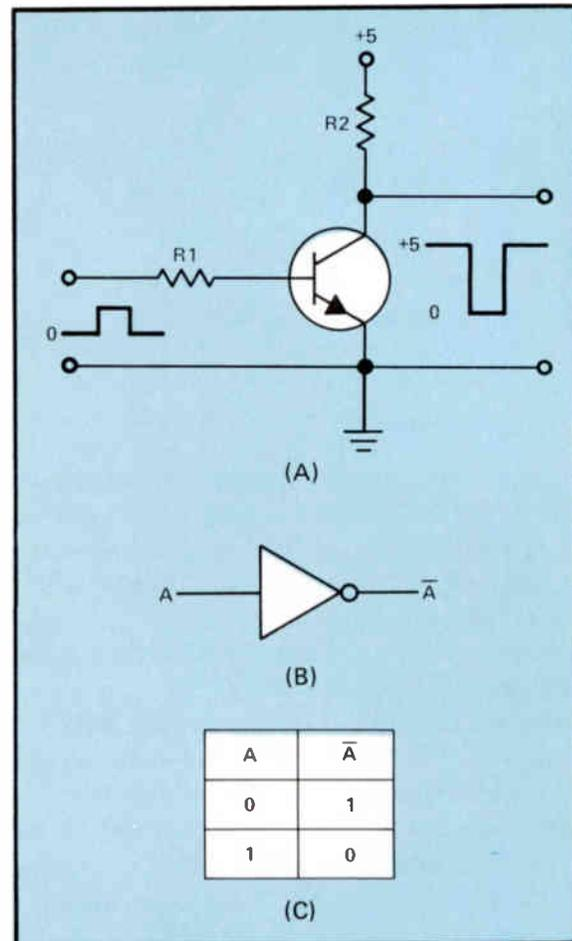

Figure 25. (A) A typical inverter circuit, and (B) its symbol. (C) A logic table.
The schematic diagram of an inverter used with positive logic is shown in Fig.25(A). The inverter does exactly what the name implies: it inverts the signal. When the input is zero, the transistor will not conduct because there is no forward bias across the emitter-base junction. The output will be +5 as shown. When the input swings positive, the transistor will saturate and practically the entire 5 volts will be dropped across  $R_2$  so that the output voltage will drop to zero. When the input signal drops back to zero, the transistor will stop conducting and the output will climb again to +5 volts.
Figure 25(B) shows the symbol used to represent a logic inverter. The triangle represents some form of active circuit, such as a transistor, and the small circle indicates inversion. The input  $A$  is at either a 1 or a 0 binary level. The output is  $\bar{A}$ , which is read
*NOT A*. This means that if the input is  $A$ , the output is NOT  $A$ ; it is the inversion of  $A$ . We summarize this in a table called a *truth table*, which is shown in Fig.25(C). Where the input is zero, the output is NOT 0; it is 1. When the input is 1, the output is NOT 1; it is 0.